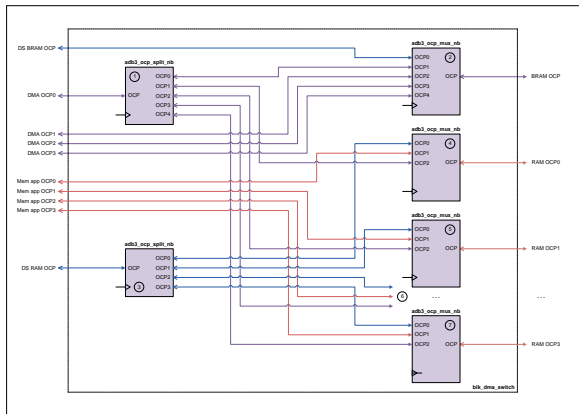

Figure 13: Uber OCP Switching Block
This block is implemented by **hdl/vhdl/examples/uber/common/blk_dma_switch.vhd** and its purpose is to connect together the various OCP channels in the **Uber** design in a useful way. A block diagram of the OCP switching block is shown in **Figure 13**.
Referring to item 1 in Figure 13, this instance of `adb3_ocp_split_nb` splits the Direct Slave on-board memory OCP channel into multiple secondary OCP channels, according to the address map in Table 71 below. The address map is defined by the the constant `DS_DDR3_ADDR_RANGE_TABLE` in the `uber_pkg` package.
Referring to item 2 in Figure 13, this instance of `adb3_ocp_mux_nb` multiplexes all OCP channels which require to be connected to the **BRAM block**:
Referring to item 3 in Figure 13, this instance of `adb3_ocp_split_nb` splits DMA OCP channel 0 into multiple secondary OCP channels according to the address map in Table 72. The address map is defined by the constant `DMA_ADDR_RANGE_TABLE` in the `uber_pkg` package.
Items 4, 5, 6 and 7 in Figure 13 are instances of `adb3_ocp_mux_nb` whose purpose is to enable multiple OCP channels to access the the on-board memory banks: